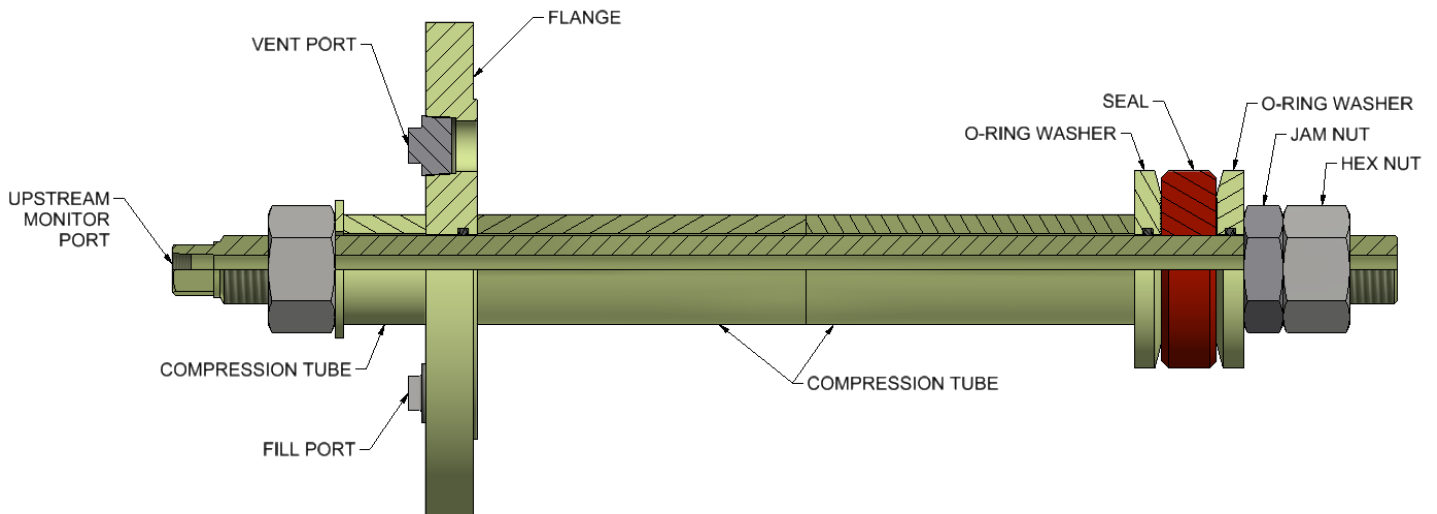

Figure 3: High Lift Flange Weld Test Plug, 4", Shown in WP Configuration
**4" Plug Sizes (refer to Figure 3)**